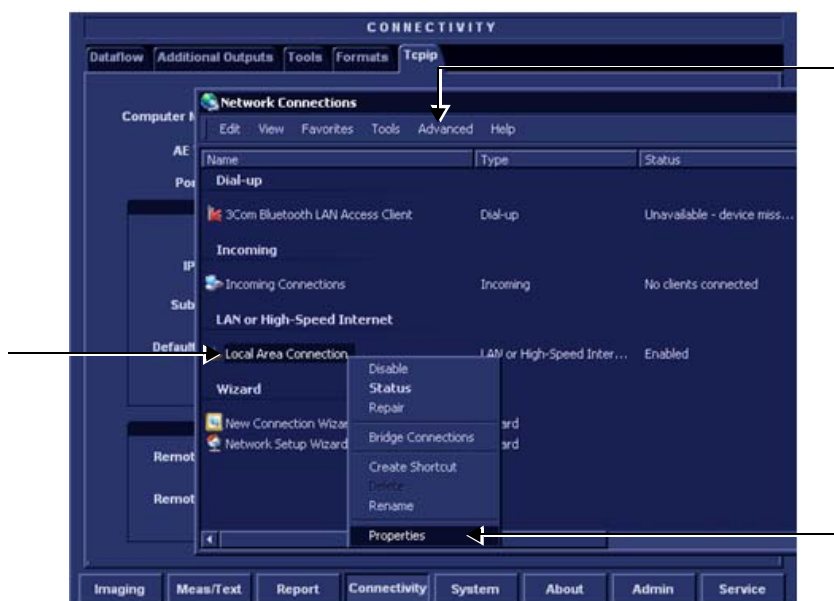

Figure 3-60 Connectivity Dialog Box - TCPIP Advanced Tab
- 5.) Select the **Local Area Connection**, as shown in Figure 3-60.